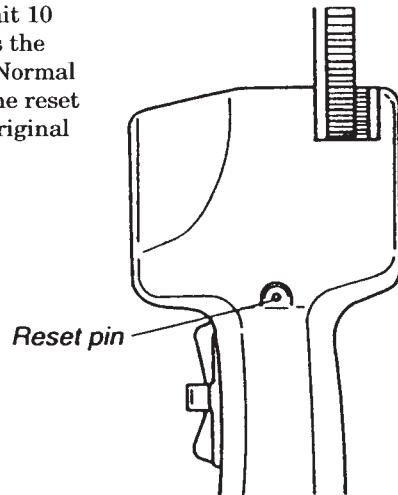

Figure 8
- Drawn amperage exceeds the rated amperage.(The reset pin will stick out about 1/16" from its original position) (figure 8)